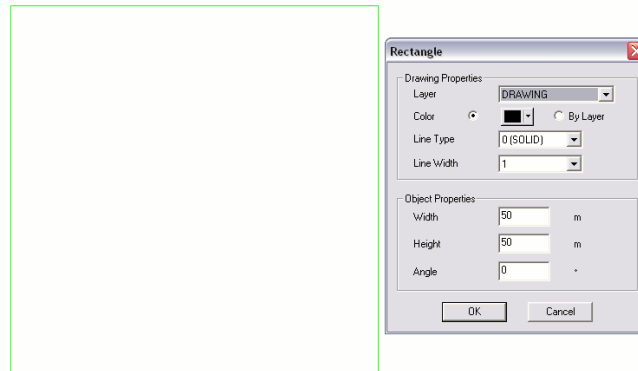

Figure 4-7
4. In the previous tutorial we did not draw in any background information. This is not usual, since in most cases you need to have the area, fence lines etc laid out before you can draw in the hydraulic system. We will enter some basic background information in this design. Select *Draw/Rectangle/2 Point* and place the first point on the screen by left-clicking. Move the cursor and click again to place the opposite corner of the rectangle (the second point). Select *Modify/Change* and click on the boundary of the rectangle. In the dialog change the “Width” and “Height” to **11.5ft (3.5m)** as in Figure 4-7. Click *[OK]*.